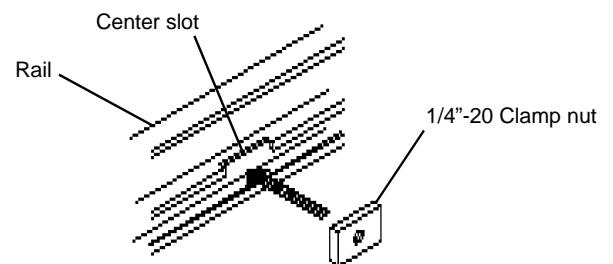

Figure 3
4. Insert two rectangular 1/4"-20 **Clamp Nuts** into the Slide Track on each Horizontal Rail by inserting it into the center slot in each Rail. See **Figure 3**.